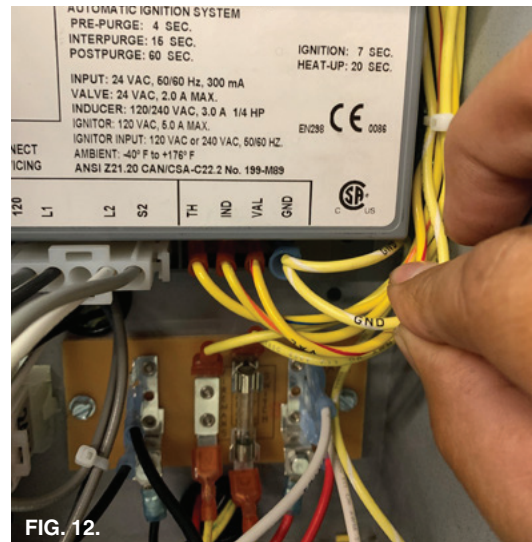

FIG. 12.
11. Connect the White/Yellow wire to GND ¼" tab at the ICM as shown in Fig. 12.